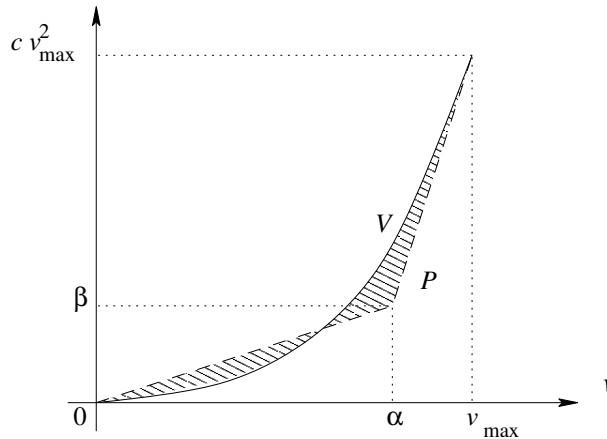

Figure 2: The quadratic function V and its PWA approximation P .
Step 2: Construct a piecewise affine (PWA) approximation P with 2 regions of the friction force curve $V : [0, v_{\max}] \rightarrow \mathbb{R} : v \mapsto v^2$ as follows. We want a perfect match for $v = 0$ and $v = v_{\max}$. This implies that we still have two degrees of freedom, i.e., the coordinates (α, β) of the middle edge point of the PWA curve (see Figure 2). Now determine α and β such that the *squared* area between V and P (i.e., the squared area corresponding the hashed region in Figure 2) is minimized, or equivalently, such that